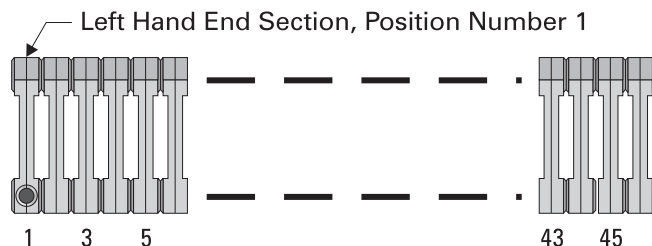

Figure 3.5: Section Positioning Numbering
8. Some of the Intermediate Sections have tapplings for installing additional risers from the boiler. These Tapped Intermediate Sections must be installed as shown in Figure 3.5A. The placement order is left to right (Figure 3.5).